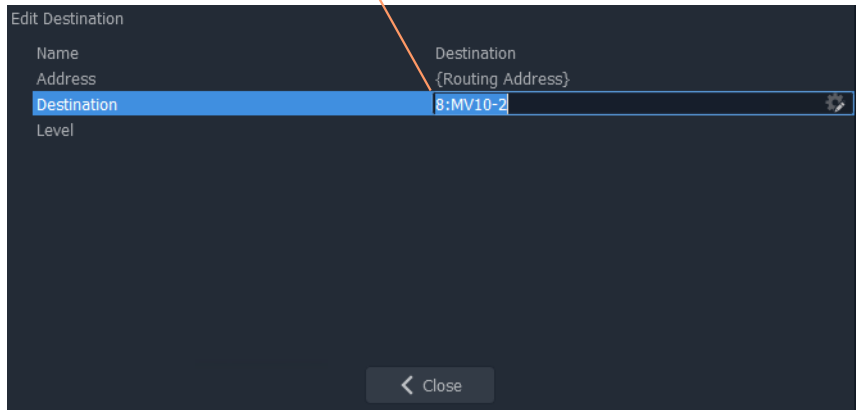

Fig. 13-56: Setting Destination for a Label's Destination Behaviour
- 6 Double-click on the **Destination** Behaviour and set its 'Destination' property to the same destination that each of the **Buttons** control. See Figure 13-56.